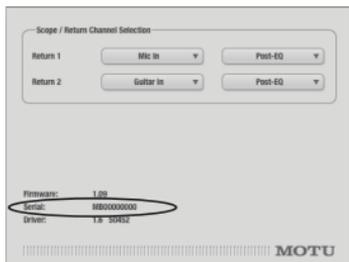

Figure 1-1: The Setup window.
- 3 The serial number is shown at the bottom of the Setup window, as shown in Figure 1-1.